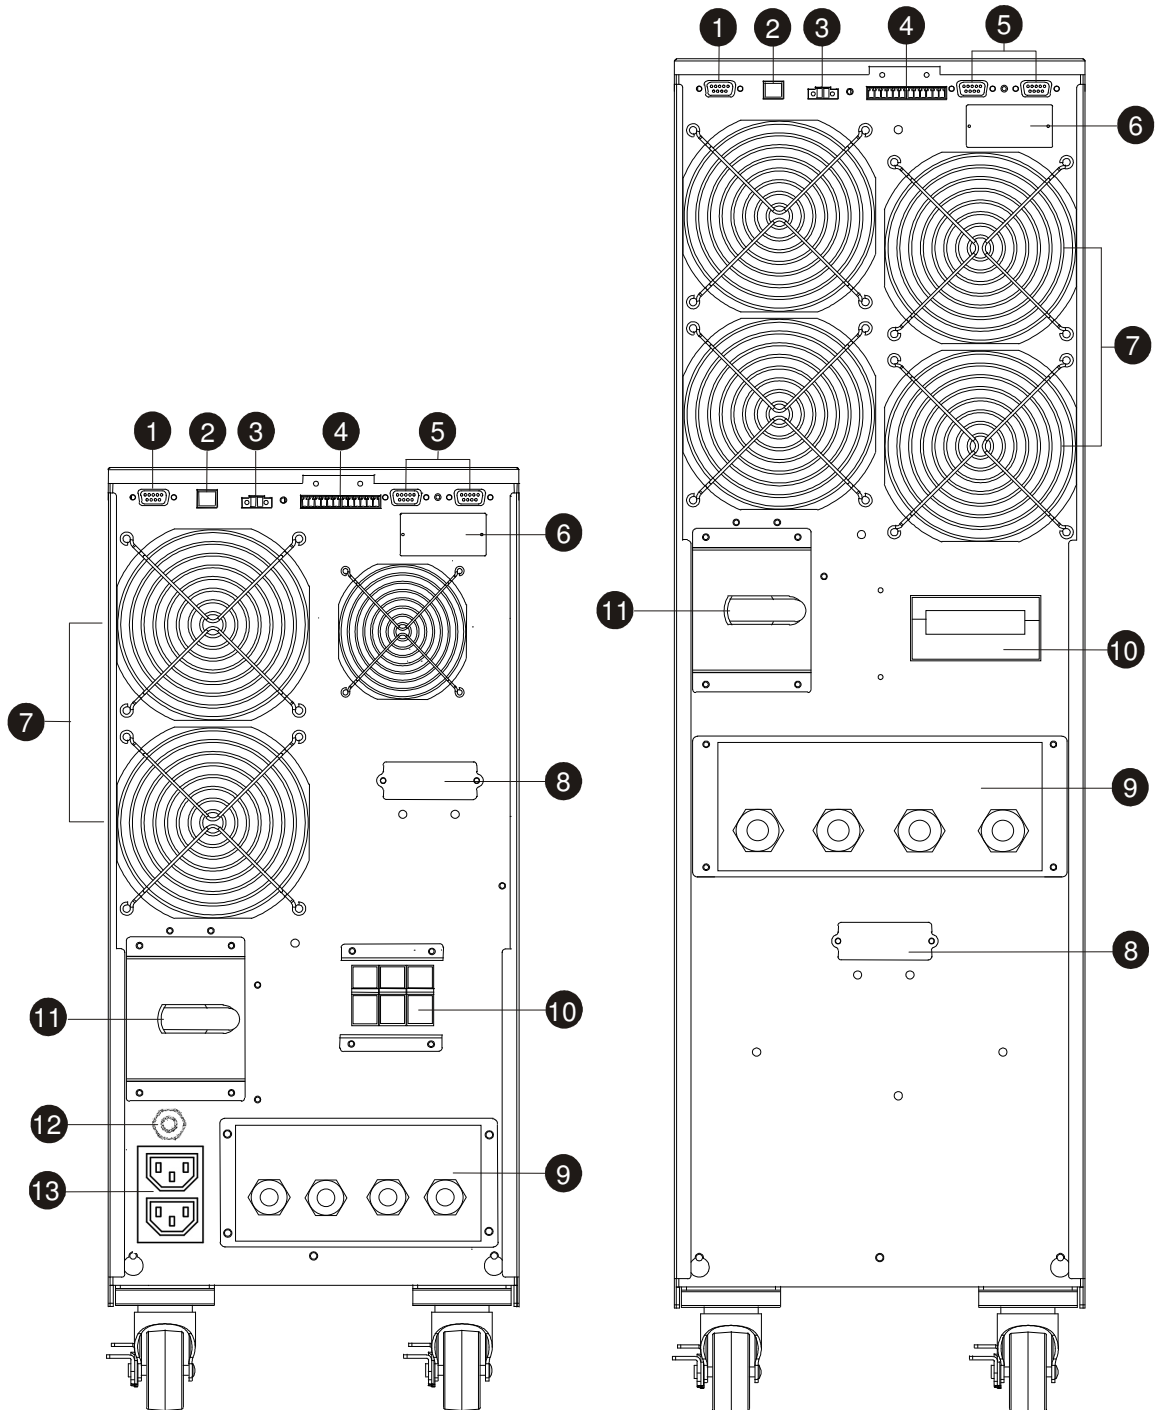
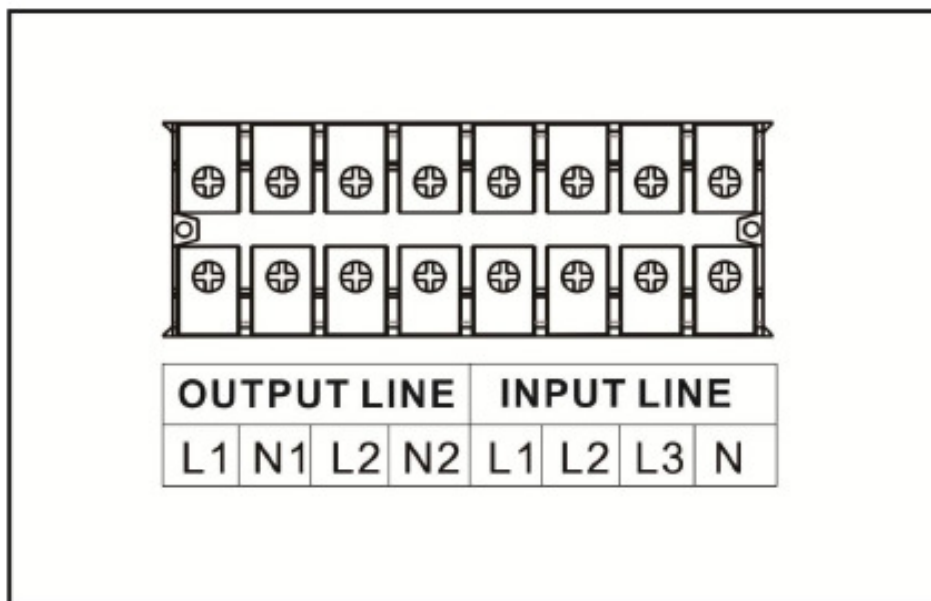

Figure 4 - Rear side (on the left: EVO DSP PLUS TM 10 KVA; on the right: EVO DSP PLUS TM 15/20 KVA)
Figure 5 - Input/Output Terminals
9. **Metallic panel for access to the Input/Output terminals:** upon removal, it is possible to access the Input/Output terminals (see figure 5).
1. The Input circuit breaker on the rear panel is “OFF” (see figure 4).
1. Remove the metallic panel that covers the Input/Output terminals, see figure 4. The terminals are shown in figure 5. All the cables have to reach the terminals from the rear side using the proper holes in the metallic panel.
2. Connect the INPUT line paying attention to the right polarity, in accordance with figure 5, as explained below:
3. Connect the OUTPUT line paying attention to the right polarity, in accordance with figure 5, as explained below:
- ▶ Remove the metallic panel that covers the External Battery Box connector (#8, figure 4).
- ▶ Connect the Battery cable (supplied with the Battery Box) to the External Battery Box connector (#8, figure 4) of the UPS.
1. Check if the Input circuit breaker the rear side is in “OFF” position (see figure 4).